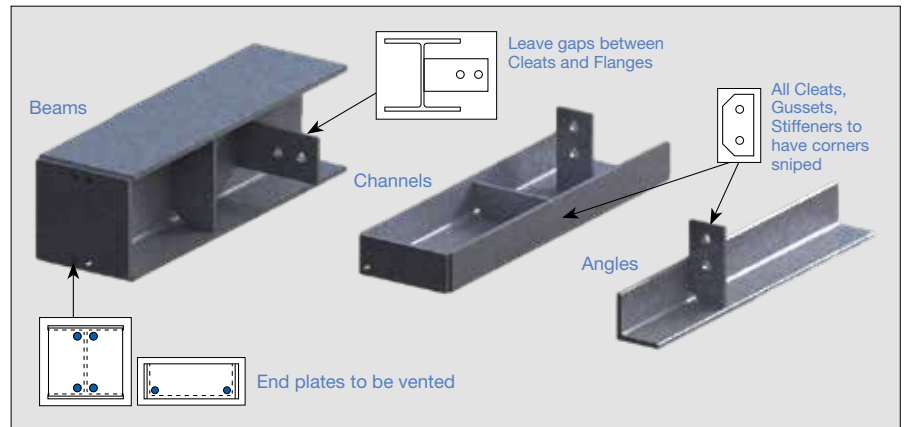
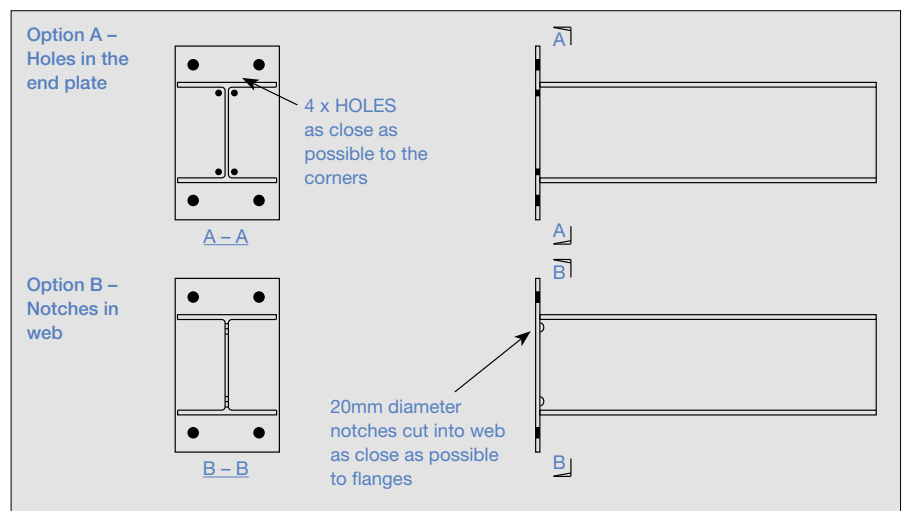

Figure 9: Hot Rolled Profiles – Typical Designs
Figure 10: End Plates Options
- End plates, gussets and stiffeners all restrict drainage. Vent and drain holes or openings (e.g. snipes) need to be provided in the corners of connected structural member (Figure 9 and Figure 10).
- The corners of end plates, gussets and stiffeners can also be cropped (referred to in industry as 'snipes') to allow for venting and draining (Figure 9 and Figure 10).